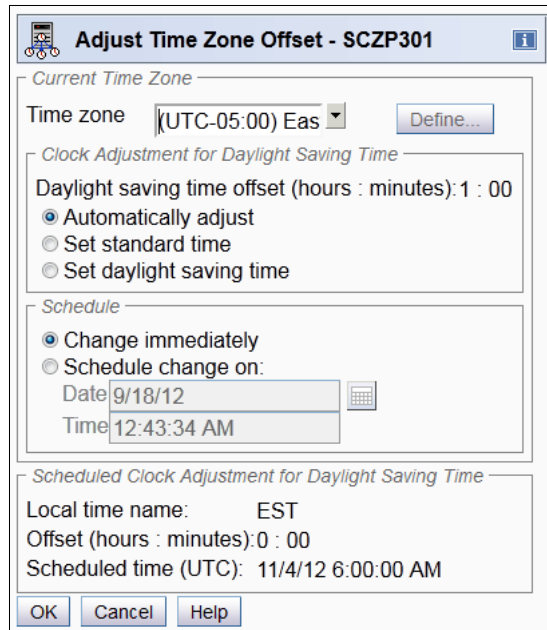

Figure 6-129 Adjust Time Zone Offset
1. Click **Adjust Time Zone** to display the Adjust Time Zone Offset window (Figure 6-129).
Following a migration, the Time zone entry displays <Not initialized>. In the example shown in Figure 6-129 on page 235, “Time zone (UTC-05:00) Eastern Time (US & Canada) (EST/EDT)” has been selected from the drop-down menu.
- ▶ The time zone offset from UTC value is set to -5:00 and the daylight saving time value is set to 1:00, reflecting the changes made in Figure 6-129 on page 235.